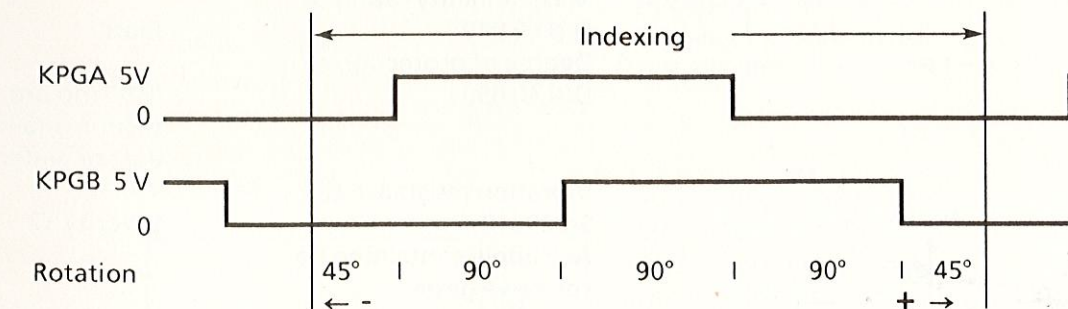

Fig. 1.36
- ***) Conventional encoder - Signal B, Signal A (Fig. 1.36)